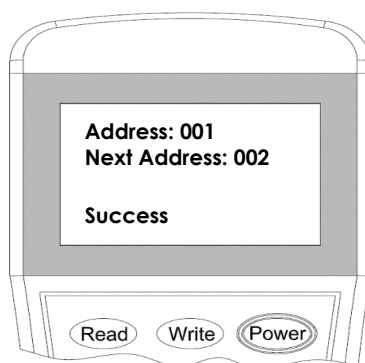

Figure 5
3. Input the desired device address value from 1 to 254, and then press **"Write"** to save the new address (Figure 5).